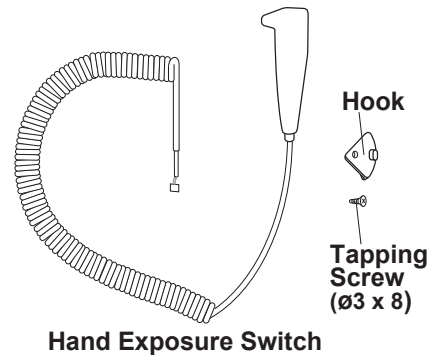

Fig.3-23 Hand Exposure Switch Kit
1. Confirm the contents of optional hand exposure switch kit. (Fig.3-23)